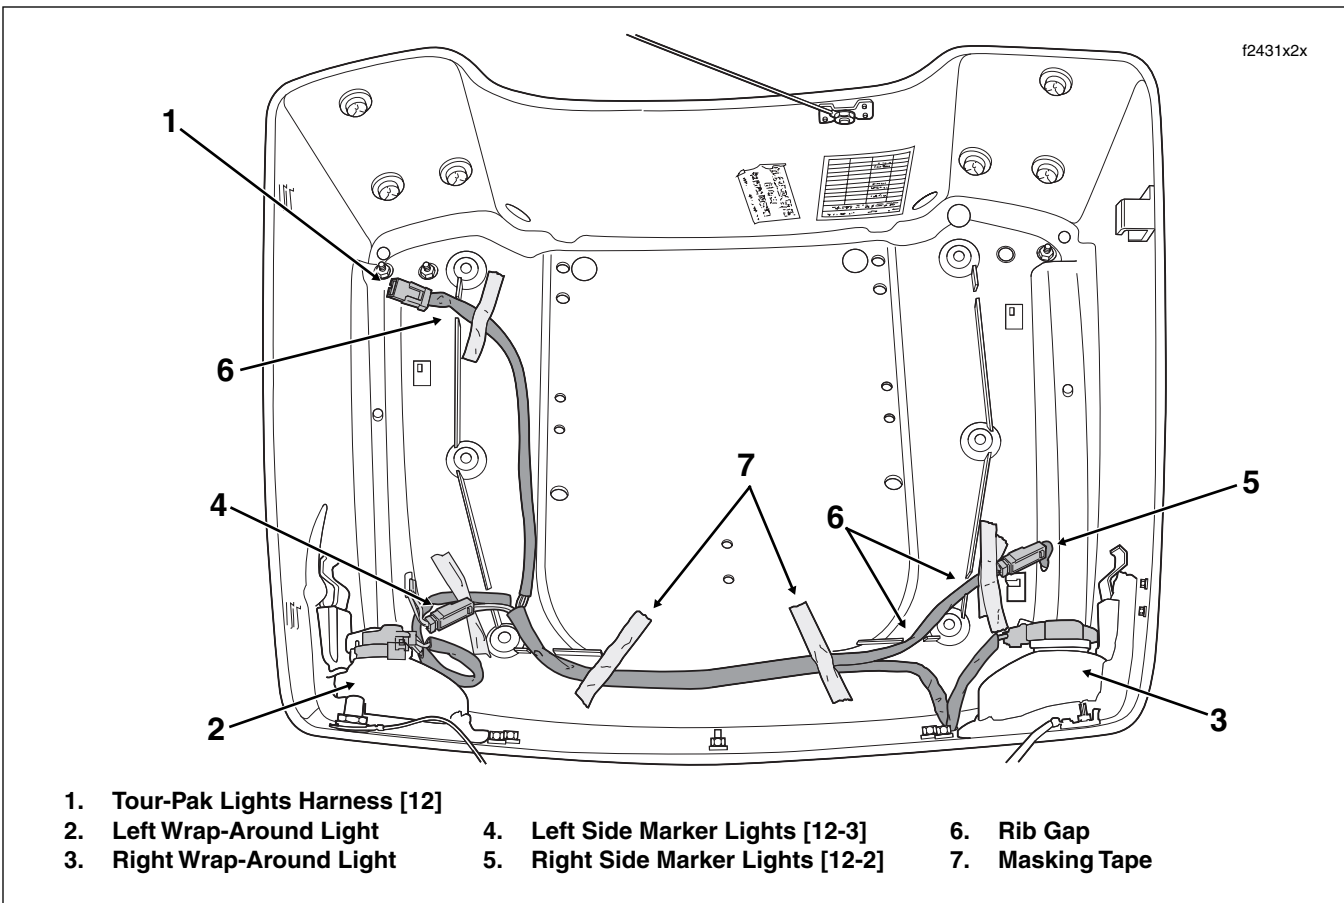

Figure 2-156. Tour-Pak Lights Harness (FLHTCU)
3. Depress external latch and remove bulb socket of both left and right side wrap-around lights. See Figure 2-156.
1. Place Tour-Pak lights harness at bottom of Tour-Pak as shown in Figure 2-156. Adjust harness so that Multilock connectors are outboard of the metal plate, when installed, and conduit is routed through gaps in ribbing. Use masking tape as necessary to fix position of harness and connectors.
2. Depress external latch and remove bulb socket of left or right side wrap-around light. See Figure 2-156.
2. Depress external latch and remove bulb socket of both left and right side wrap-around lights. See Figure 2-156.